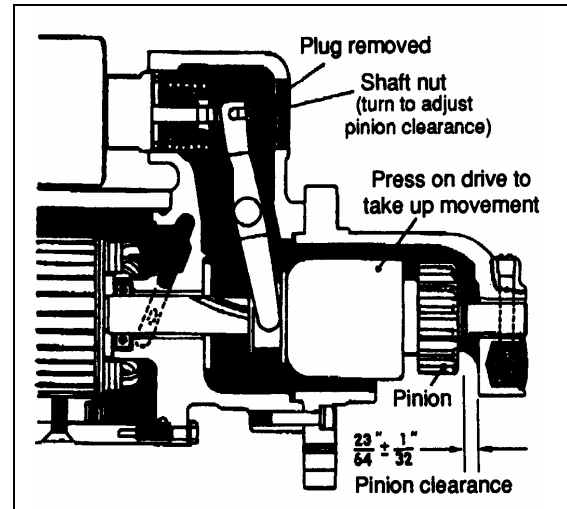

FIGURE 50: PINION CLEARANCE
Pinion clearance should be checked after reassembly of motor to ensure the clearance is within specifications. To check pinion clearance (starter off engine), first disconnect the motor field connector from the solenoid motor terminal. Connect 24 volt battery with the positive battery lead to the solenoid switch terminal (5), and the negative battery lead to the grounded (G) solenoid terminal. Momentarily flash a jumper lead from the solenoid motor terminal to the grounded (G) solenoid terminal. The pinion gear will now shift into cranking position and remain that way until the battery is disconnected. Push the pinion or drive back towards the commutator end to eliminate slack movement. Measure the distance between pinion and pinion stop. This should be $23/64" \pm 1/32"$ (9,5 mm \pm 0,79 mm). Pinion clearance is adjusted to these limits by turning the solenoid shaft nut after removing access plug in shift housing. See figure 50.